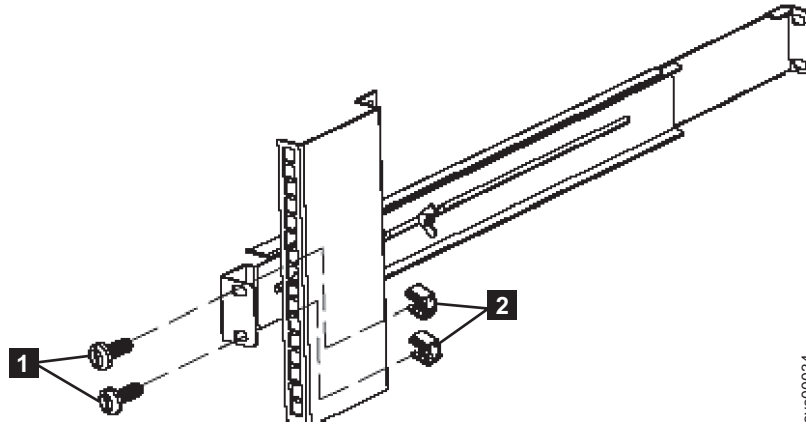

Figure 130. Removing the rear rail on the 2145 UPS-1U
5. Remove the two M6 × 10 screws from the rear side of the rail (**1** in Figure 130 on page 296) and the two clip nuts (**2**).